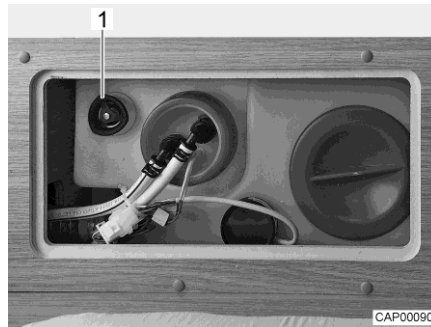

Fig. 99 Water tank with rotary handle
- Turn the rotary handle (Fig. 99,1) on the water tank in an anticlockwise direction as far as possible beyond the resistance to fully open the drainage opening.